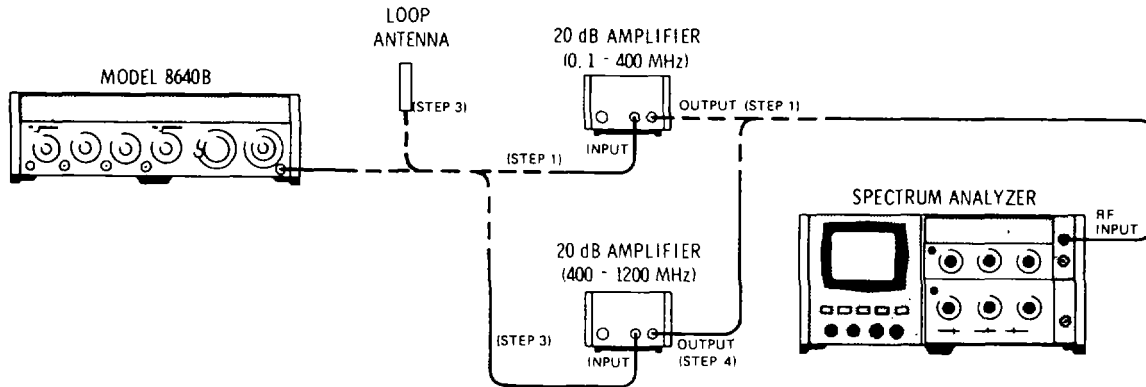

Figure 4-15. Output Leakage Test Setup.
1. Connect equipment as shown in Figure 4-15 (with Signal Generator connected to spectrum analyzer through 0.5 - 400 MHz amplifier) after setting Signal Generator's controls as follows: